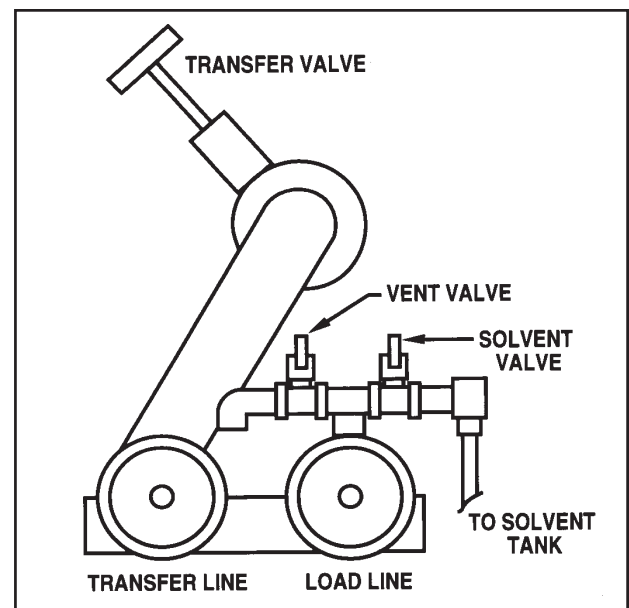

FIGURE 3-36. TRANSFER LINE & LOAD LINE
7. Remove Load Line cap and Transfer Line cap. Attach loading hoses between the Maximizer3 and the external tank. Use the over-center clamps to secure the couplers. Be sure to connect the hoses so that material is drawn in through the Load Line and sent out through the Transfer Line. (See Figure 3-36.)